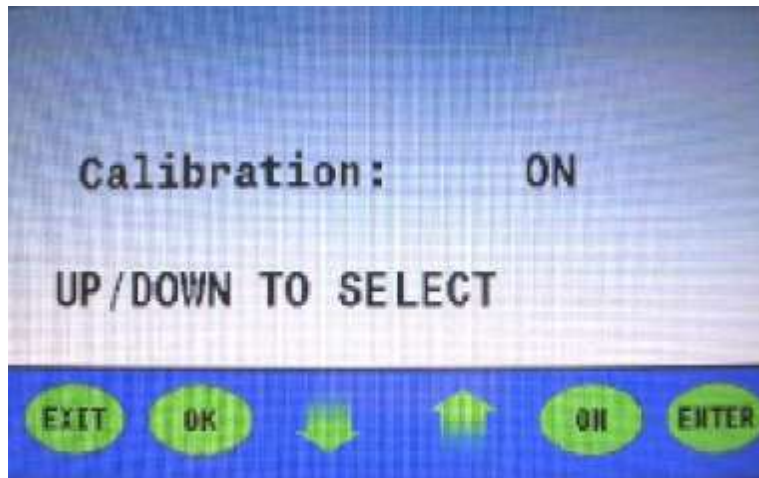

Figure 10
24. Press the **up** or **down arrow** and change Gain to "ON" (**figure 10**).